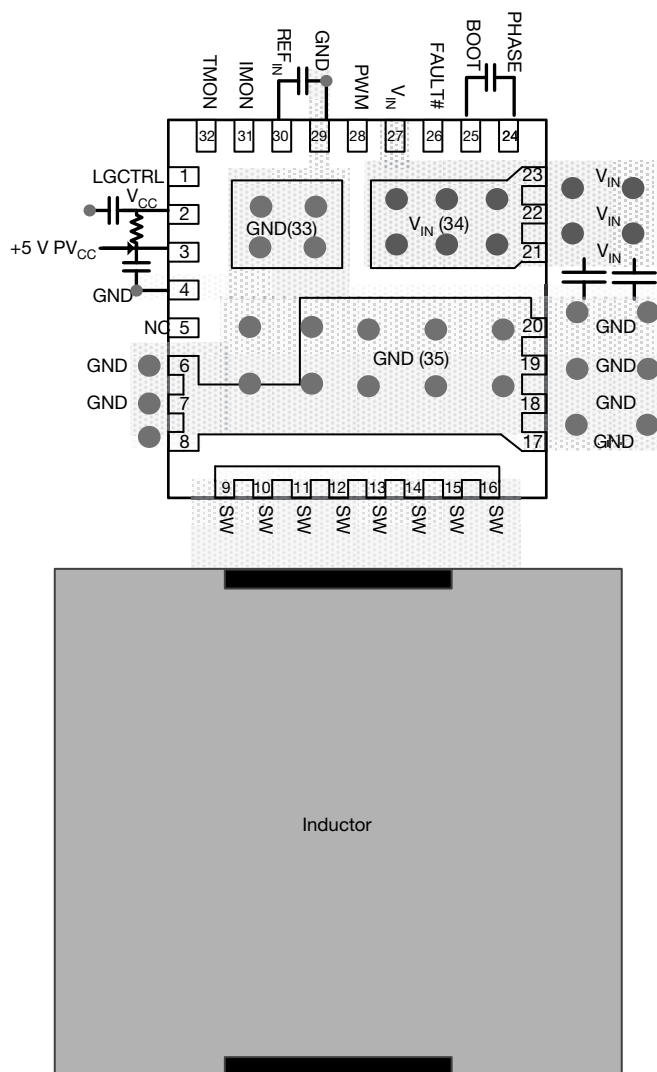

Fig. 16 - Single-Phase PCB Layout for Minimizing Current Loops
- Place multiple 10 μ F or greater ceramic capacitors directly at device between V_{IN} and P_{GND} as indicated in Fig. 16 This is the most critical decoupling and reduced parasitic inductance in the power switching loop. This will reduce overall electrical stress on the device as well as reduce coupling to other circuits. Best practice is to place the decoupling capacitors on the same PCB side as the device.
- Place PV_{CC} , V_{CC} and BOOT-PHASE decoupling capacitors at the IC pins as shown in Fig. 16.